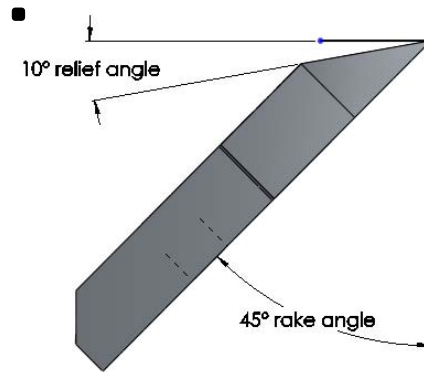

Figure 10: Rake and Relief Angles
- 8.2** The cutting edge of the cutter is made up of two intersecting angles. The rake angle (Figure 10) is 45° . The relief angle (Figure 10) is 10° . When sharpening the cutters, care should be taken to avoid changing either of these angles, particularly the relief angle. Changing the relief angle will adversely affect the penetration rate of the drill.